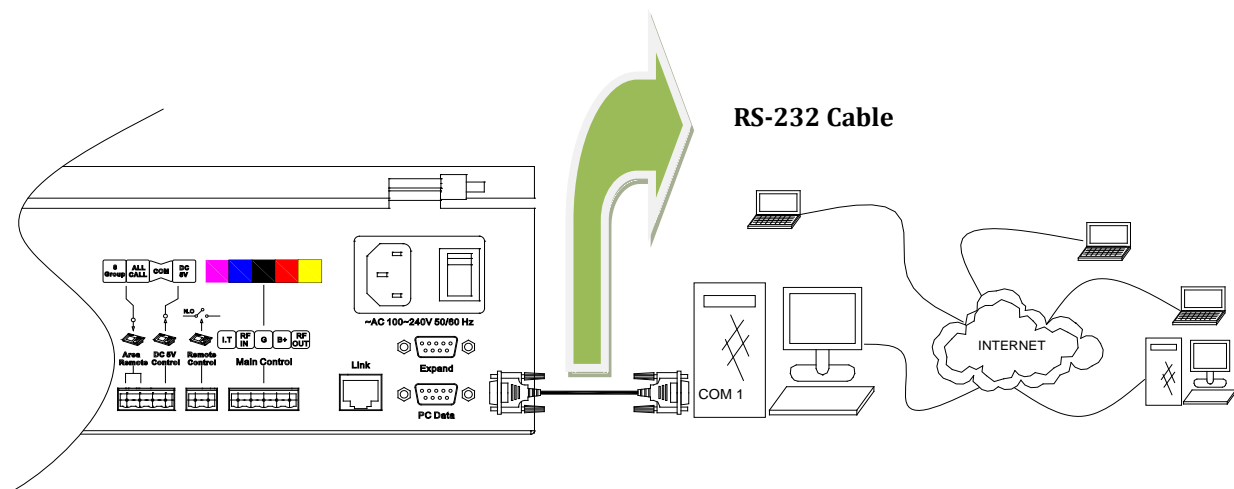

Fig. 8 Connection between Graphical Control Software and WMP-2100
1. WMP-2100 is compliant to PA control software, refer to Fig. 8 for connection (Fig. 8).